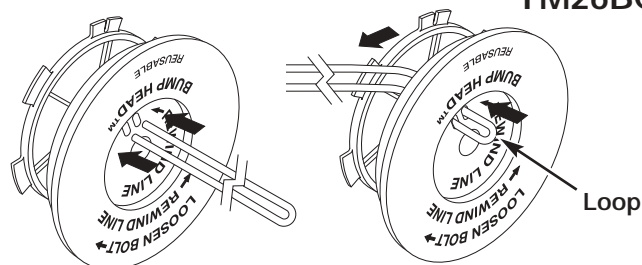

Fig. 37
6. Take approximately 16 feet (5 m) of new trimming line, loop it into two equal lengths. Insert each end of the line through one of the two holes in the inner reel (Fig. 37 or 38). Pull the line through the inner reel so that the loop is as small as possible.